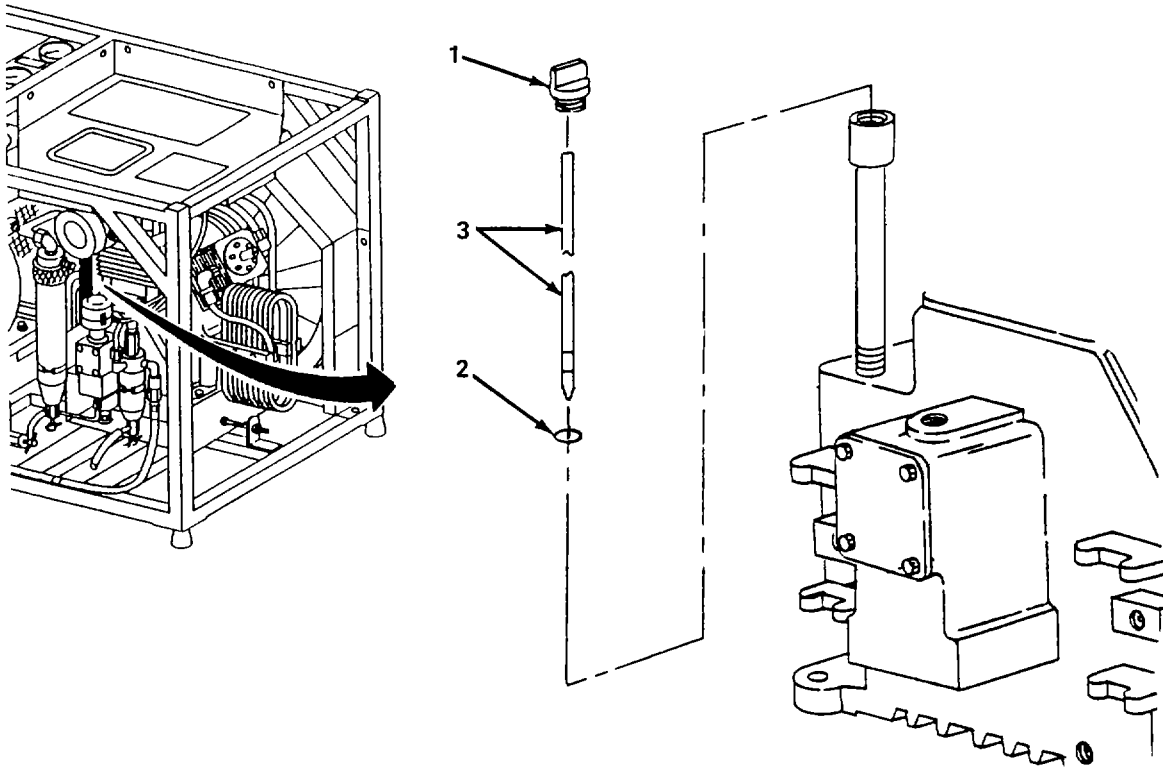

Figure 4-11. Dipstick, Replace.
**Replace.** (figure 4-11)
- (1) Remove filler cap (1), preformed packing (2), and dipstick (3). Discard preformed packing (2).
- (2) Remove dipstick (3) from filler cap (1).
- (3) Install dipstick (3) in filler cap (1).
- (4) Install filler cap (1), new preformed packing (2), and dipstick (3).